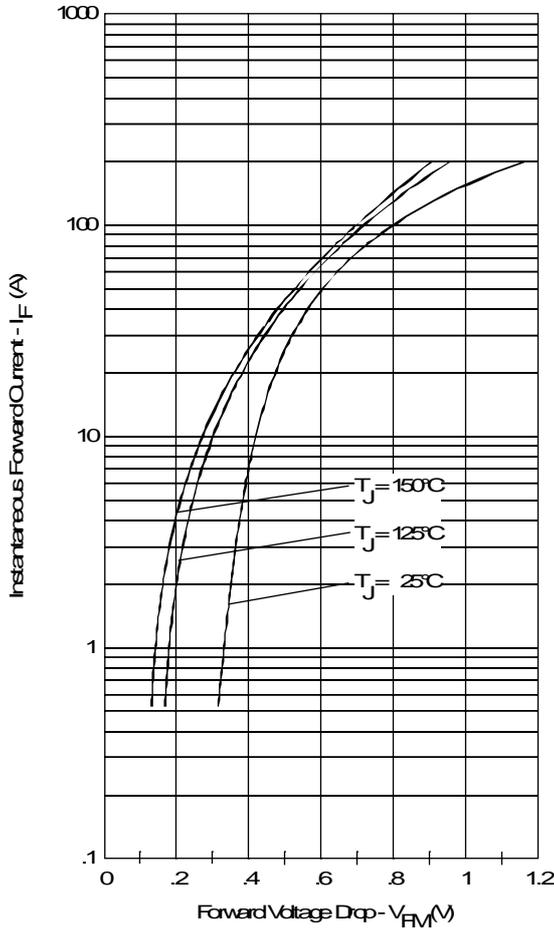

Fig. 1 - Max. Forward Voltage Drop Characteristics (Per Leg)
| V_{FM} Max. Forward Voltage Drop (Per Leg) * See Fig. 1 (1) | 0.52 | V | @ 30A $T_J = 25^\circ\text{C}$ |